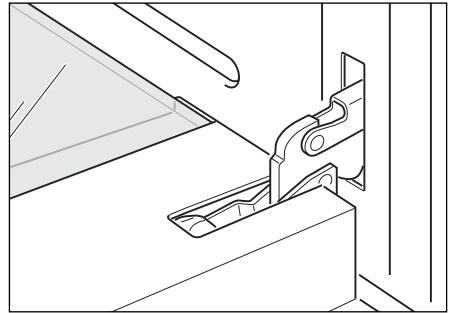

Fig.21a
- Fully open the oven door (Fig. 21a).
- 1 Make sure the door is locked open (see Figs. 21a - 21c).